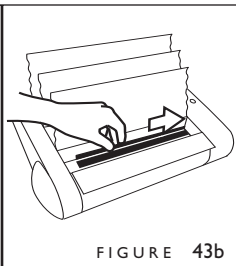

FIGURE 43b
4. Place the strip into the binding recess with the adhesive side facing up. The short side of the bent "L" should be resting against the back wall. Slide the strip all the way to the right (figure 43b).